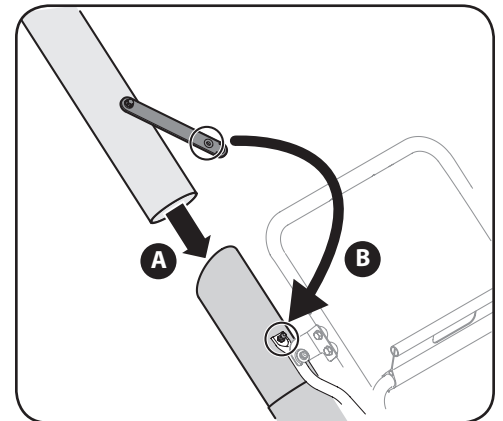

Figure 4-6
- b. Secure strap on hose extension to pin on hose assembly. See Figure 4-6.